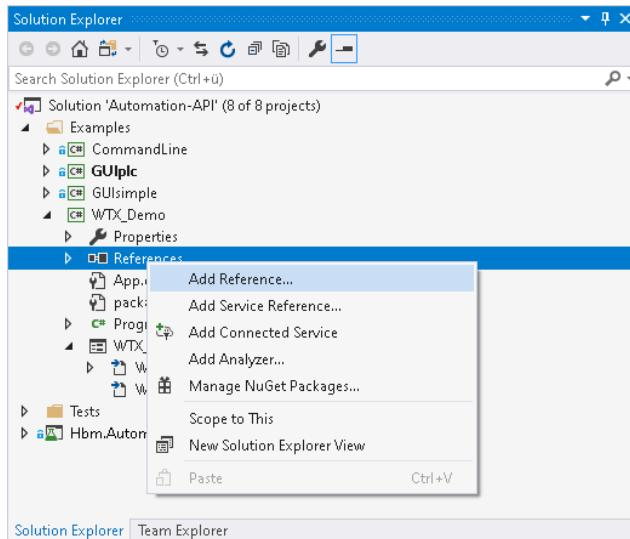
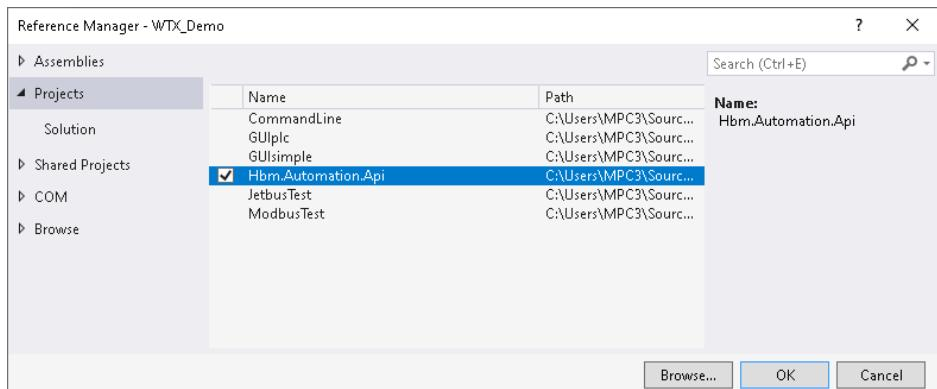

Fig. 7.8 Adding a reference
Fig. 7.9 Selecting the HBM Automation API
- ▶ Add the reference to the HBM Automation API (*Fig. 7.8* and *Fig. 7.9*).